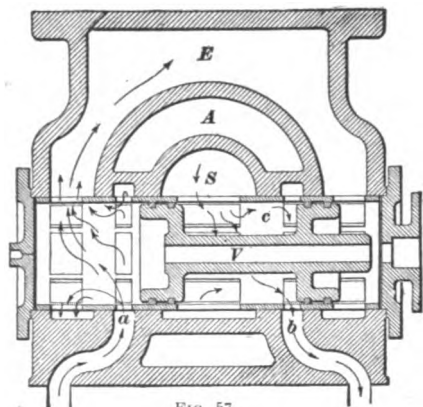

FIG. 57.
**63. Construction of Piston Valves.**—As will be seen by referring to Fig. 57, the piston valve *V* derives its name from its form, being composed of two pistons connected together by a stem. The piston valve differs in form from the
cut on the lines  $xy$  and  $yz$ , and the top piece removed; if we were to look down on the bottom piece, we should see a section like that shown in Fig. 57. In Fig. 57,  $E$  is the exhaust passage;  $S$ , the steam passage; while  $A$  is simply a cavity in the
**64. Operation of Valve.**—As presented in Fig. 57, the valve has just completed its backward stroke (i. e., to the right), and is on the point of reversing its motion. Steam, therefore, is flowing into the back end of the cylinder through port  $b$ , while the exhaust steam in the front end is flowing out to the exhaust through port  $a$ , as indicated by the arrows. When the valve moves to the end of its forward stroke, steam will flow from the cavity  $c$  through port  $a$  into the left end of the cylinder, while the exhaust steam in the back end will flow from port  $b$  into the right leg of the exhaust passage  $E$ . A valve is said to be a **direct valve** when it opens the front port for the admission of steam by moving to the rear, and closes it by moving to the front. The piston valve here shown is therefore said to be an **indirect valve**, and it will be seen that the direction of its motion must be the opposite of that of a **direct valve**;